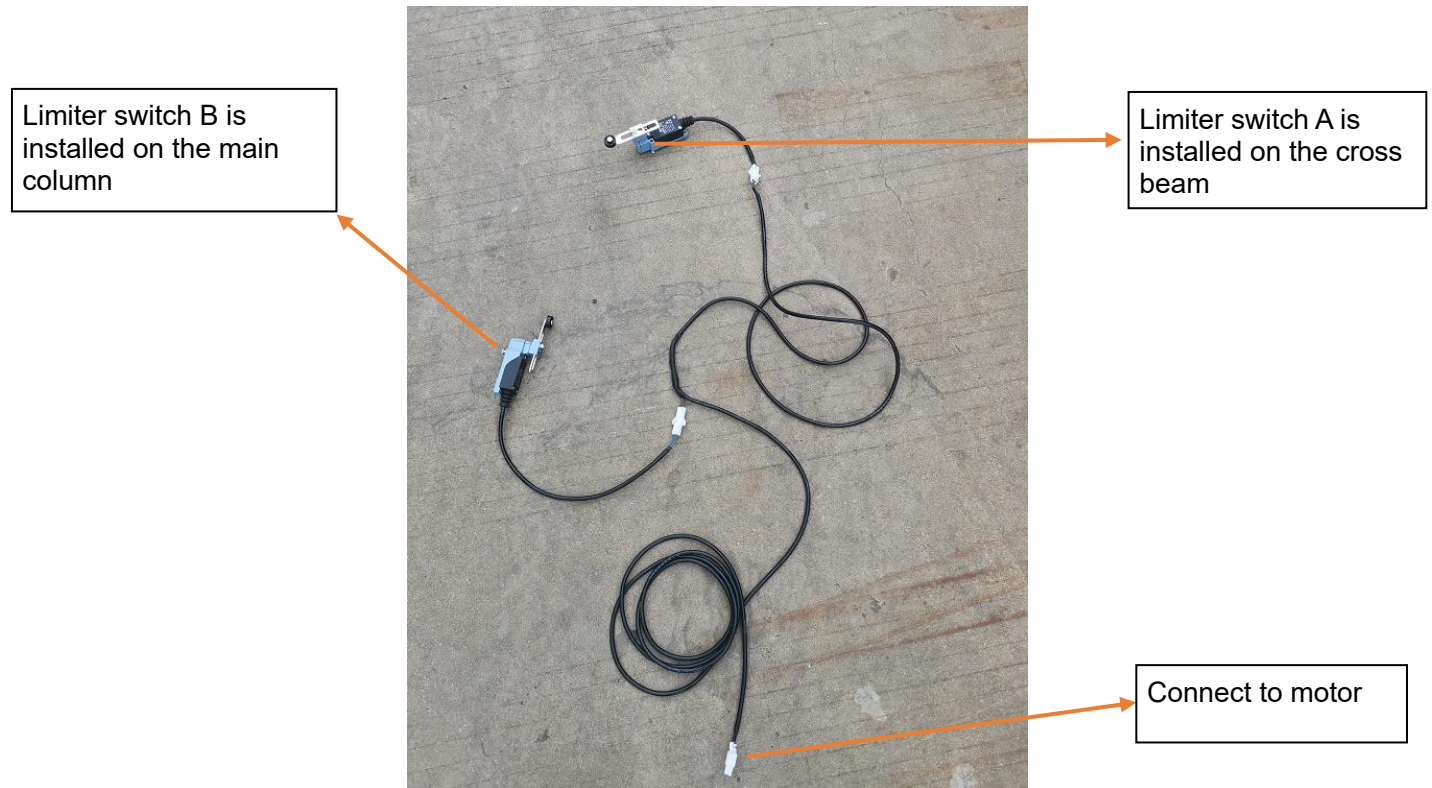

Fig. 15
1. View of the two limiter switches (Fig.15):